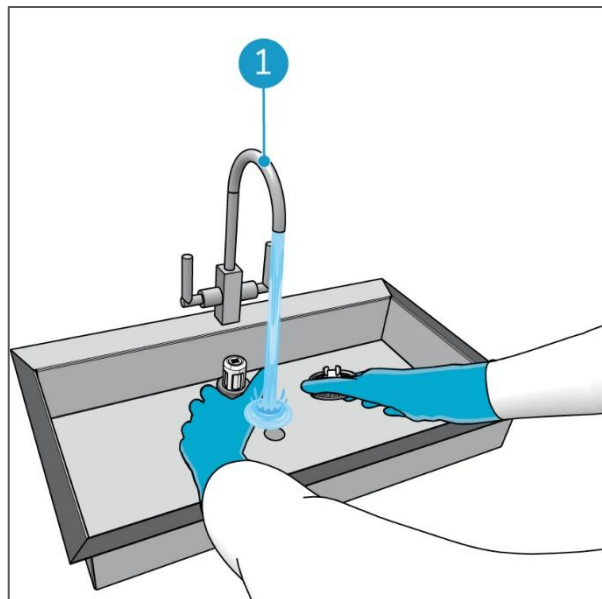

Figure 55
6. Take of the cap and the filter and rinse both with tap water above a sink (Figure 55, pos 1).